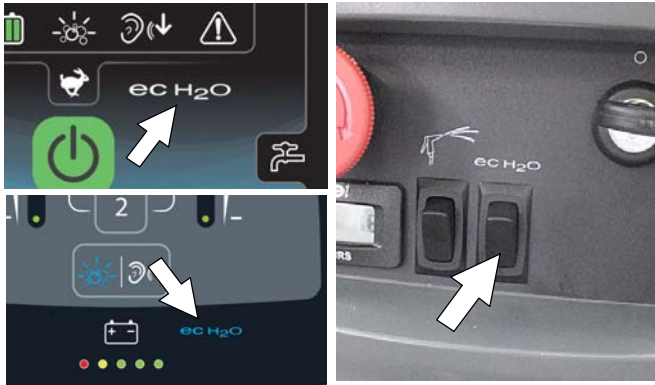

FIG. 75
3. ec-H₂O models - The ec-H₂O system will automatically turn on at key start up. The ec-H₂O indicator will appear on the control panel indicating that the system is activated (Figure 75).
ATTENTION: When conventional scrubbing with cleaning detergents in solution tank, make sure to turn off the ec-H₂O system by pressing the ec-H₂O switch (Figure 75). If cleaning detergent is accidentally cycled through ec-H₂O system, a system fault will occur. To clear fault, drain solution tank, add clear water and operate the ec-H₂O system to clear fault. If fault repeats, continue to recycle key until fault clears. See SERVICE INDICATOR CODES for further detail.